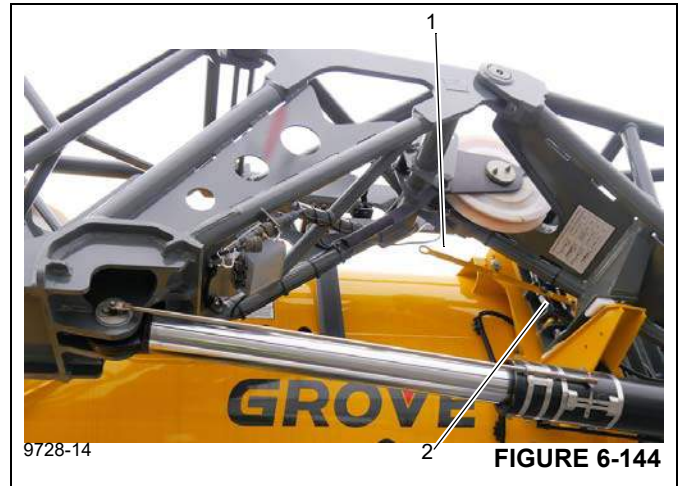

FIGURE 6-144
3. Lift handle (1), (Figure 6-144) to raise pin (2), (Figure 6-144) fully in its bracket. Secure in place. Pushing the handle up manually moves Pin #2 to the locked position, which will retract the interlock cables out of the two pins that the boom extension is swinging on.